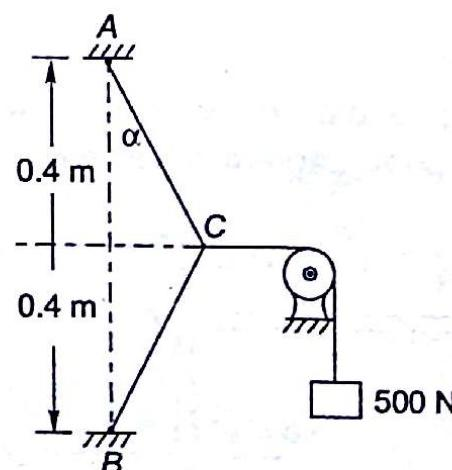

Fig. 3.51
- 3.5 An elastic string AB is just taught before a force of 500 N is applied at its centre at C , as shown in the Fig. 3.51. If the string takes 4 N/mm of elongation in string, at what angle α , equilibrium will be maintained after the application of force?